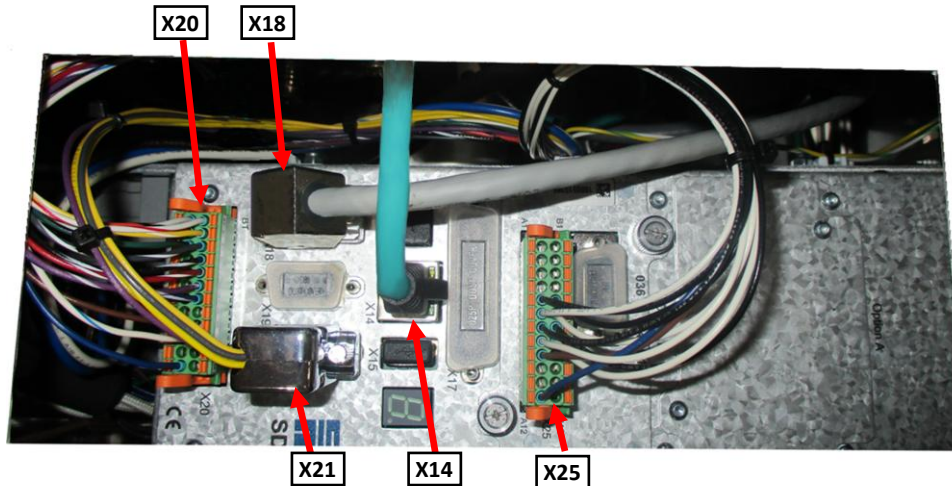

Figure 5-27
Step 8. Remove all the connectors attached to the servo drive: (See Figure 5-27)